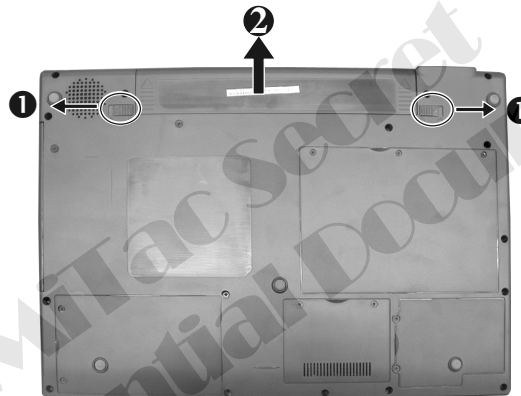

Figure 2-1 Remove the battery pack
2. Slide two release lever outwards to the “unlock” (☐) position (❶), while take the battery pack out of the compartment (❷). (Figure 2-1)